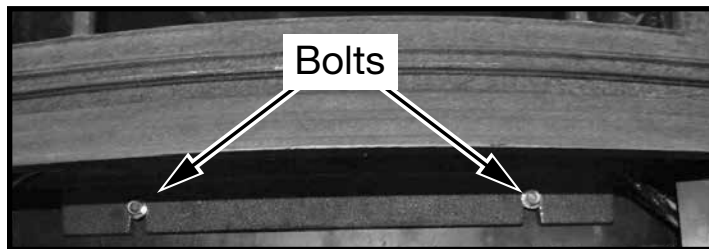
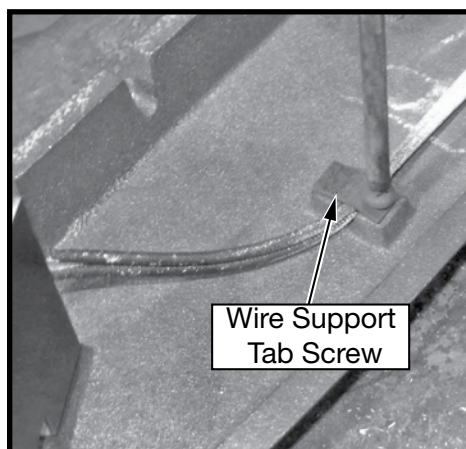

Figure 15: Bolts securing ash lip to firebox.
Figure 16: Wire Guides.
3. Loosen the two bolts that secure the ash lip to the firebox (Figure 15)6, carefully lift up the ash lip and remove from the firebox and unscrew the wire support tabs (Figure 16) noting how the wire are held in place.